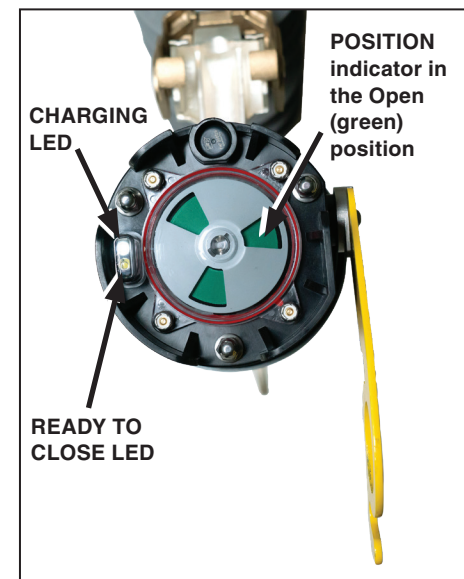

Figure 2. A VacuFuse II Self-Resetting Interrupter (vacuum interrupter open).
There are two LEDs on the base of the VacuFuse II interrupter. See Figure 2.
**To open:** Pull the yellow manual operating lever down firmly using the straight prong of the Talon tool or a distribution prong. Remove the tool right away. The vacuum interrupter inside the VacuFuse II interrupter will open, and the POSITION indicator will show the green target. See Figure 2 on page 1. After one minute and 45 seconds of the vacuum interrupter in the **Open** position, the VacuFuse II interrupter will drop out.
**To close:** Set the yellow manual operating lever in the **Up** position. Push the pull-ring of the manual operating lever up firmly using the straight prong of the Talon tool or a distribution prong. The vacuum interrupter inside the VacuFuse II interrupter will close after 45 seconds of sufficient voltage present at the cutout mounting, and the POSITION indicator will show the red target. See Figure 2 on page 1. If the VacuFuse II interrupter is inadvertently closed into a fault, the vacuum interrupter will trip open independently of any force still applied to the manual operating lever.
- STEP 1.** Open the vacuum interrupter by pulling down on the yellow manual operating lever. Confirm the POSITION indicator at the base of the VacuFuse II interrupter displays a green target. See Figure 2 on page 1.